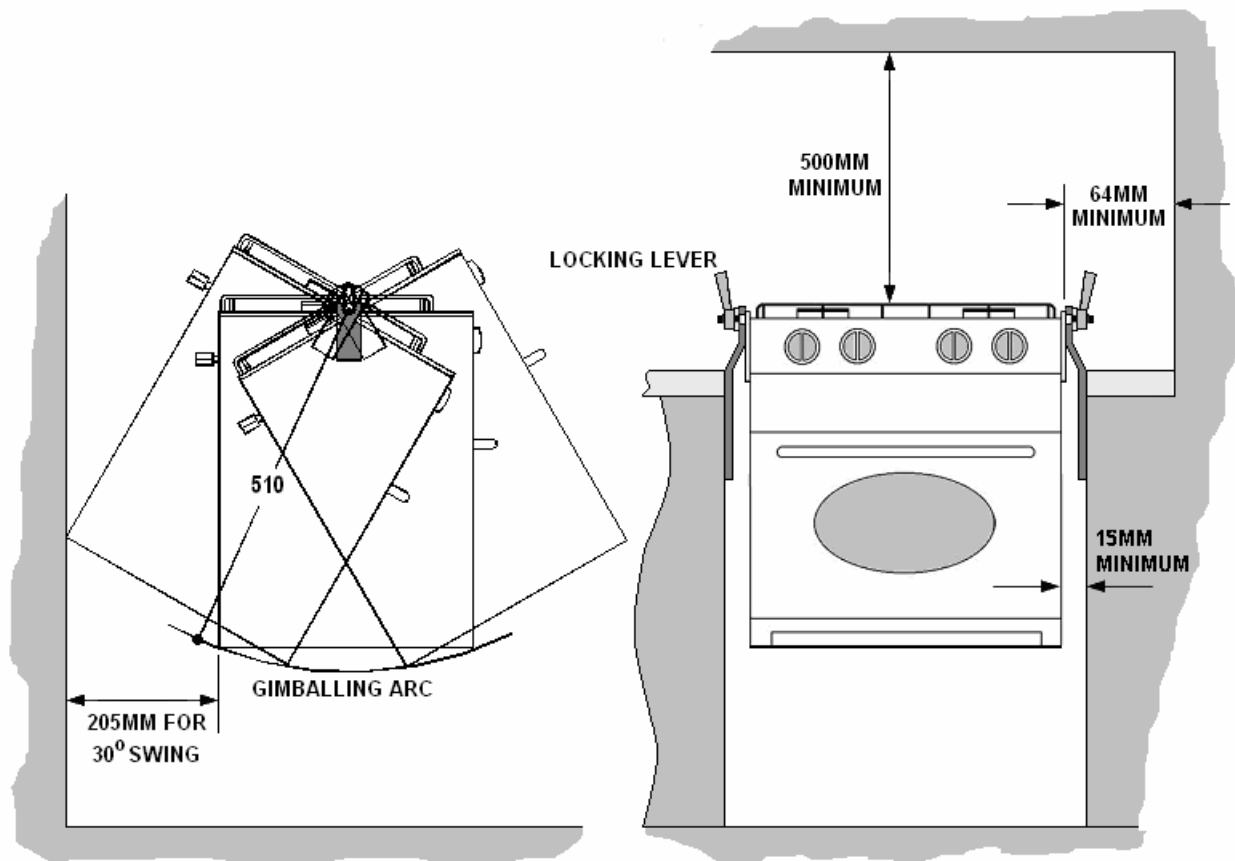

Fig. 5
1. Remove the two screws towards the rear top of the cooker.(fig 5)